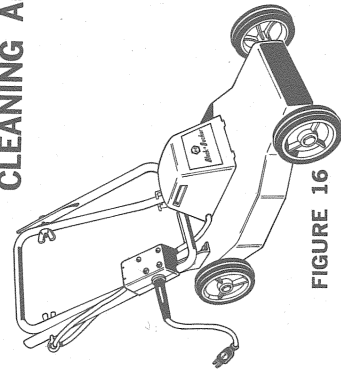
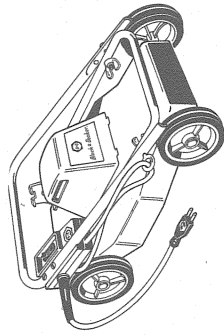

FIGURE 16
FIGURE 17
**FOLDING MOWER HANDLE** — The handle can be folded either as shown in Figure 16, or as shown in Figure 17 as follows:
(1) **FIGURE 16** — Loosen two wing nuts that hold upper and lower handle sections together. Fold upper handle section forward as shown.
(2) **FIGURE 17** — Squeeze both lower handle legs inward so that they clear the mounting brackets on the mower deck. Fold handle forward to a horizontal position. Loosen two wing nuts that hold upper and lower handle sections together. Fold upper section backward as shown. Be careful to avoid pinching electric cord.
**PREVENTING CORROSION** — Fertilizers and other garden chemicals contain agents which greatly accelerate the corrosion of metals. If you mow in areas where fertilizers or chemicals have been used, the mower should be cleaned immediately afterward as follows: (1) Be sure the tool is unplugged. (2) Wipe all exposed parts with a damp cloth. **CAUTION: DO NOT POUR OR SPRAY WATER ON THE MOWER IN AN ATTEMPT TO CLEAN IT.** Do not store the tool on or adjacent to fertilizers or chemicals. Such storage can cause rapid corrosion.